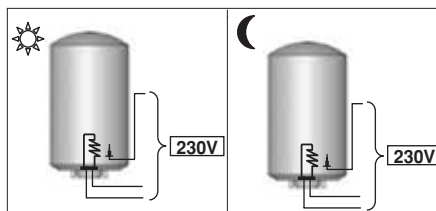

Figure 14 - PROfessional TECH alimentation permanente
② Alimentation permanente
- > Résistance et PROfessional TECH ⇨ Alimentation continue (Figure 14)